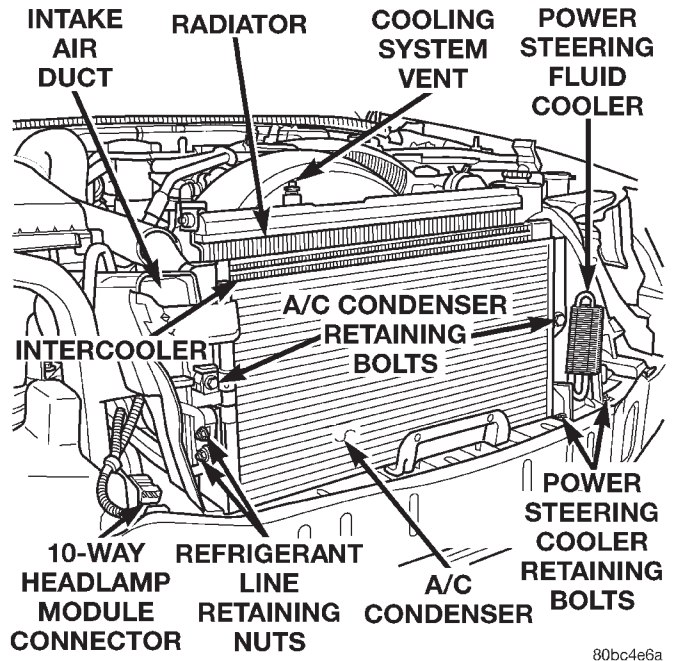
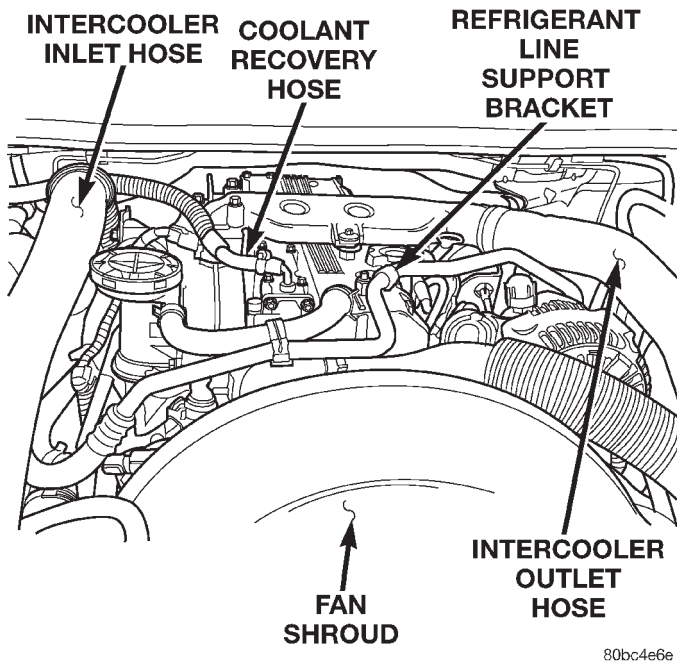

Fig. 19 Cooling Module Assembly
Fig. 20 Intercooler Hoses
(1) Assemble the cooling module. Torque the retaining bolts to 30 N·m (22 ft. lbs.).
(2) Position the cooling module assembly and install the retaining bolts (Fig. 19). Torque the bolts to 41 N·m (30 ft. lbs.).
(3) Install the fan shroud, electric and viscous cooling fans as an assembly in the vehicle. Refer to
(4) Install the suction and discharge refrigerant lines on the A/C condenser assembly (Fig. 19). Torque the retaining nuts to 28 N·m (21 ft. lbs.). Be certain the sealing gaskets are free of tears and well lubricated with R-134a Pag Oil.
(5) Position the power steering cooler and install the retaining bolts (Fig. 19).
(6) Charge the refrigerant system. Refer to Group 24, Heating and Air Conditioning for the procedure.
(7) Connect the electric radiator cooling fan electrical connector.
(8) Install the intake air duct on the vehicle (Fig. 19).
(9) Install the upper radiator hose on the radiator.
(10) Install the radiator overflow hose on the radiator.
(11) Install the intercooler inlet and outlet hoses on the intercooler (Fig. 20).
(12) Install the radiator closure panel on the vehicle. Refer to Group 23, Body for the procedure.
(13) Install the upper fan shroud retaining bolts. Torque the bolts to 15 N·m (132 in. lbs.).
(14) Install the hood latch support brackets and the hood latch on the vehicle.
(15) Install the headlamp module mounting (HMM) assembly. Refer to Group 23, Body for the procedure.
(16) Connect the right and left headlamp module wire harnesses at the 10-way connectors. Located just above the front bumper to the right and left of the a/c condenser.